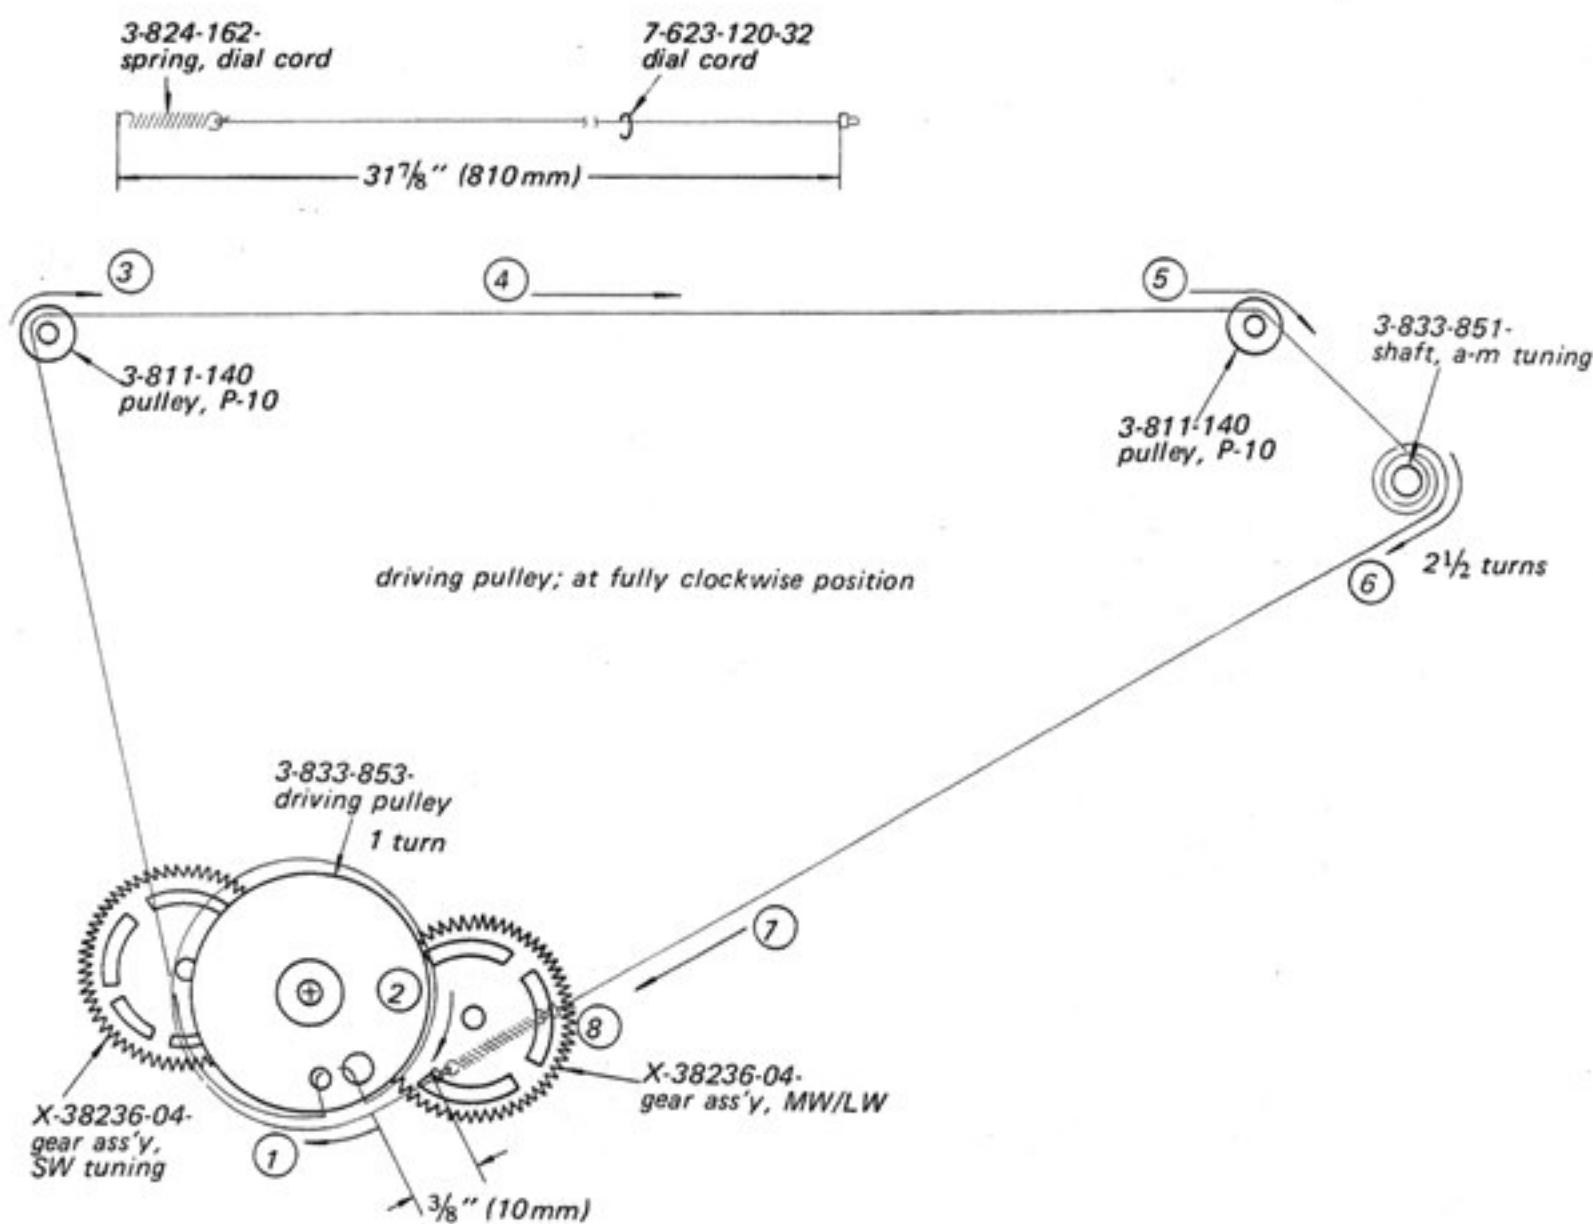

Fig. 2-19
4. Rotate the driving pulley for a-m fully clockwise to its minimum capacitance position as shown in Fig. 2-19.